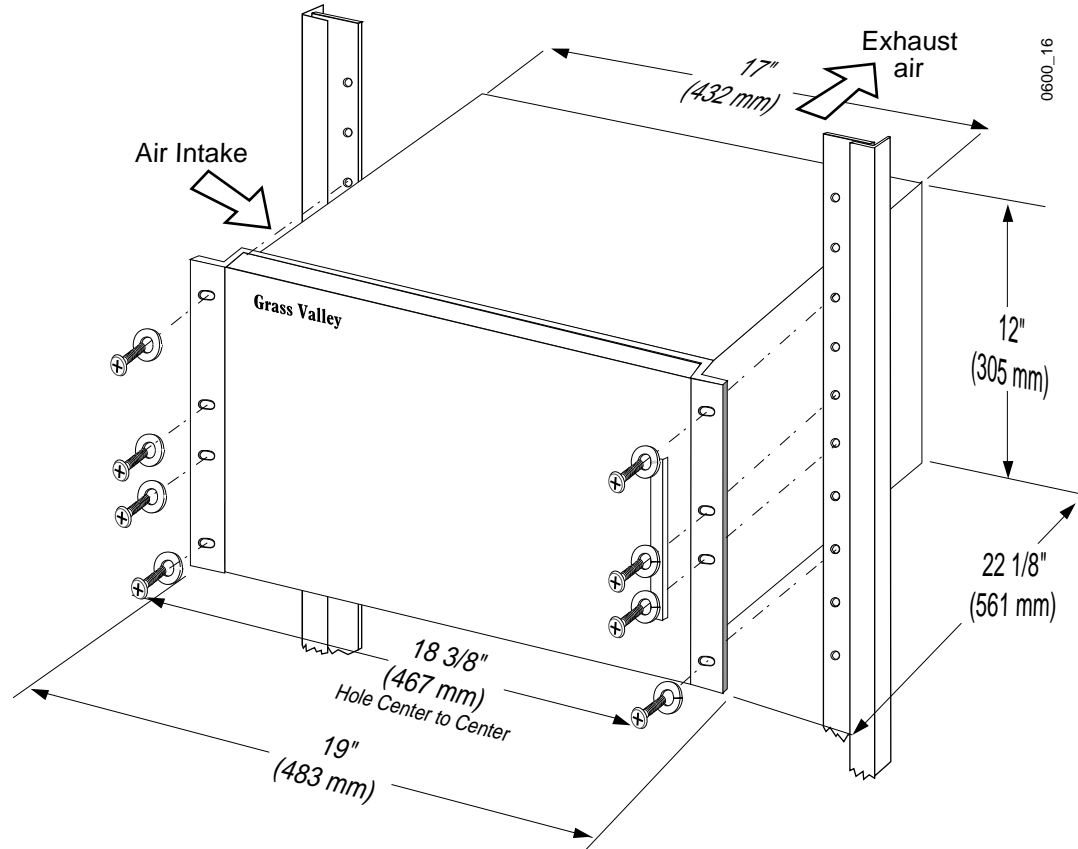

Figure 2-4. Small System Controller Frame Rack Installation
1. Mount the frame in a standard 19-inch equipment rack using the bolts recommended by the rack manufacturer (Figure 2-4).